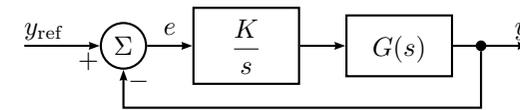

Figure 3.17c
- Assume that G is controlled using an I controller according to Figure 3.17c. For what values of K is the closed loop system stable?